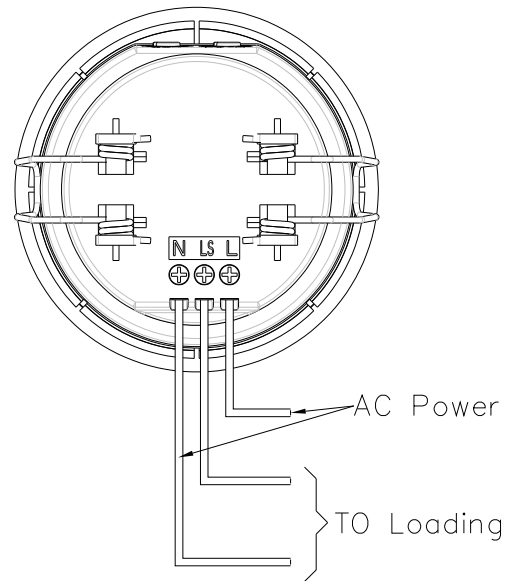

FIGURE 4
- (1) Switch off the power source or wall switch.
- (2) Strip approximately 6-8mm of the insulating part of the wires and connect as follows.
- (3) The connection of all power cords is at your disposal. Connect the L and N to the AC supply. Connect the "LS" and "N" to light fixture you have. (FIGURE 4)